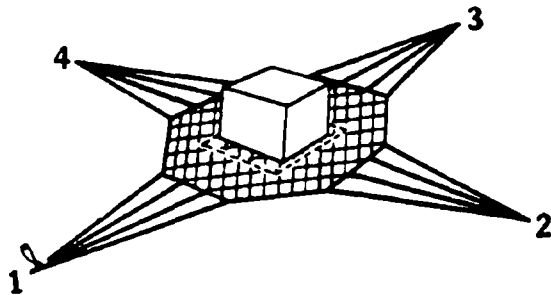

Figure 1-8. Aligned Load
Step 3 - Align the load on the net so that the sides of the load are parallel with the yellow cord (Figure 1-8). The load may overlap the yellow cord. The load's center of gravity will be near the center of the net. The lifting legs will be on the